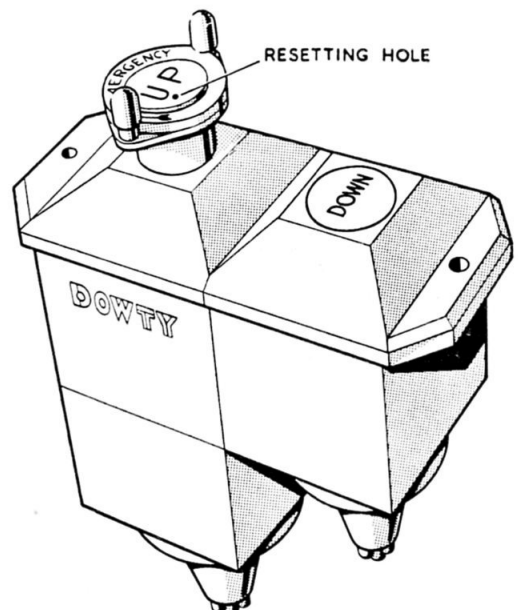
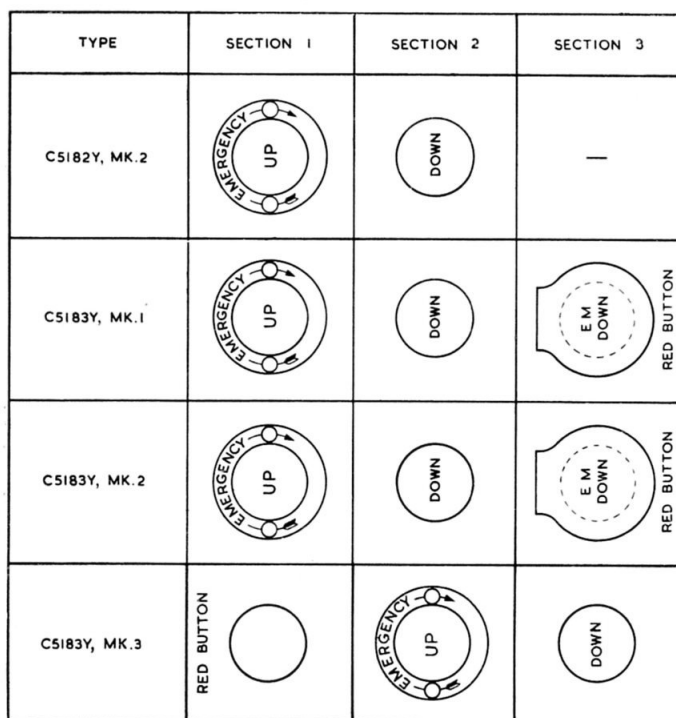

Fig. 1. Push-switch, Type C5182Y, Mk. 2
Fig. 2. Switch details
2. A general view of a typical switch of this range, the Type C5182Y, Mk. 2, is shown in fig. 1. Details of the various Marks are given in fig. 2, and in Table 1, from which it will be seen that there may be either two or three sections with or without locking mechanism and with or without safety flaps. Each switch is interlocked with the others, so that only one button may be in at a time. As the button is depressed, it forcibly ejects the button already in.